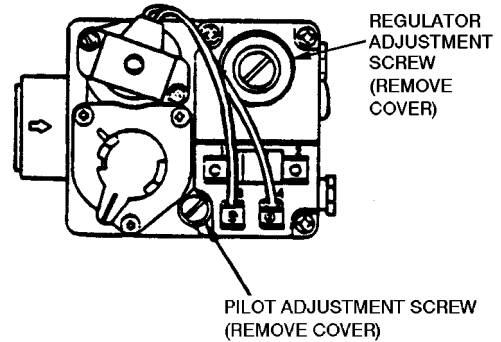

Fig. 54 — Gas Valve
6. Remove screw cap covering regulator adjustment screw (See Fig. 54).